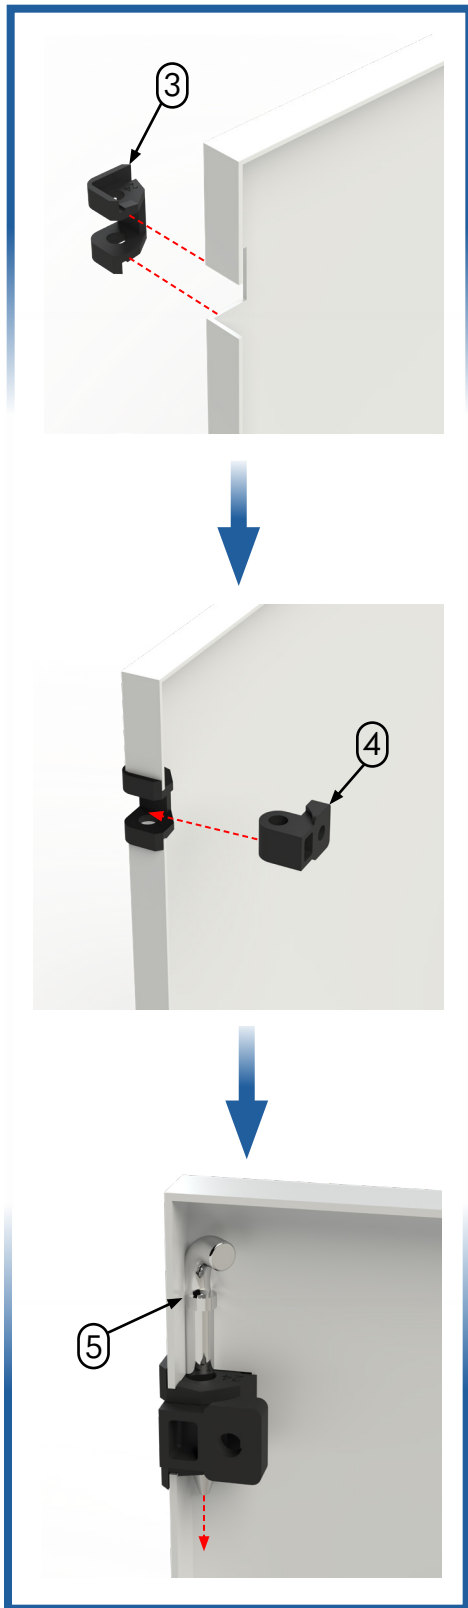

Figure 3
- Insert hinge pin (Item 5) from the top until the pin flange seats against the outer hinge (Figure 3).